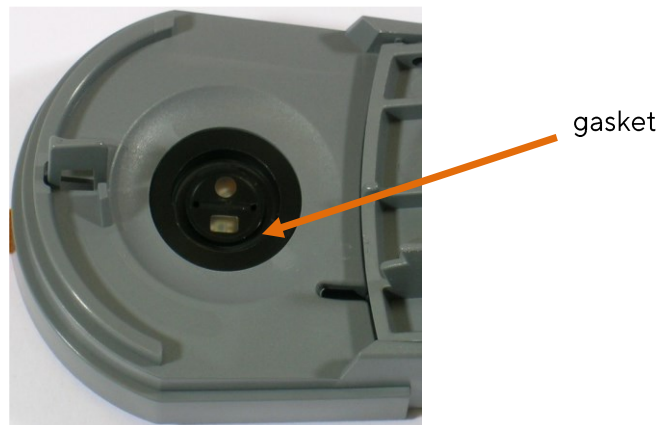
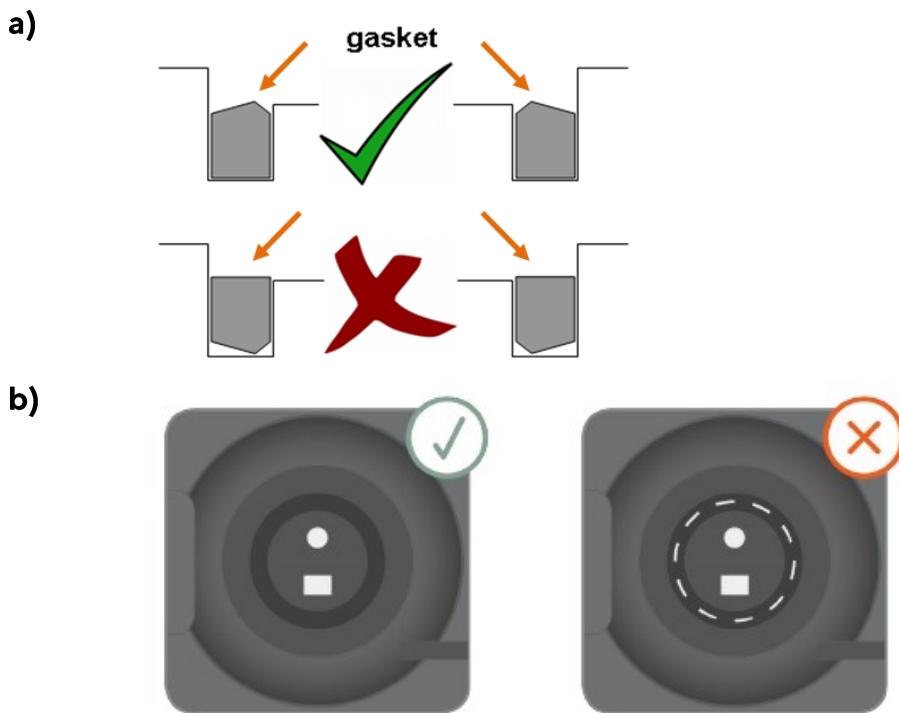

Figure 16 Replacement, Docking Station Gasket
Figure 17 Positioning of the Docking Station Gasket
5. Insert a new (asymmetric) gasket (see *Figure 16 Replacement, Docking Station Gasket* and *Figure 17 Positioning of the Docking Station Gasket*) by pressing it with a cotton swab soaked with 70% isopropanol into the lining groove. Make sure that no cotton fibers remain on the gasket as this might cause leak problems.